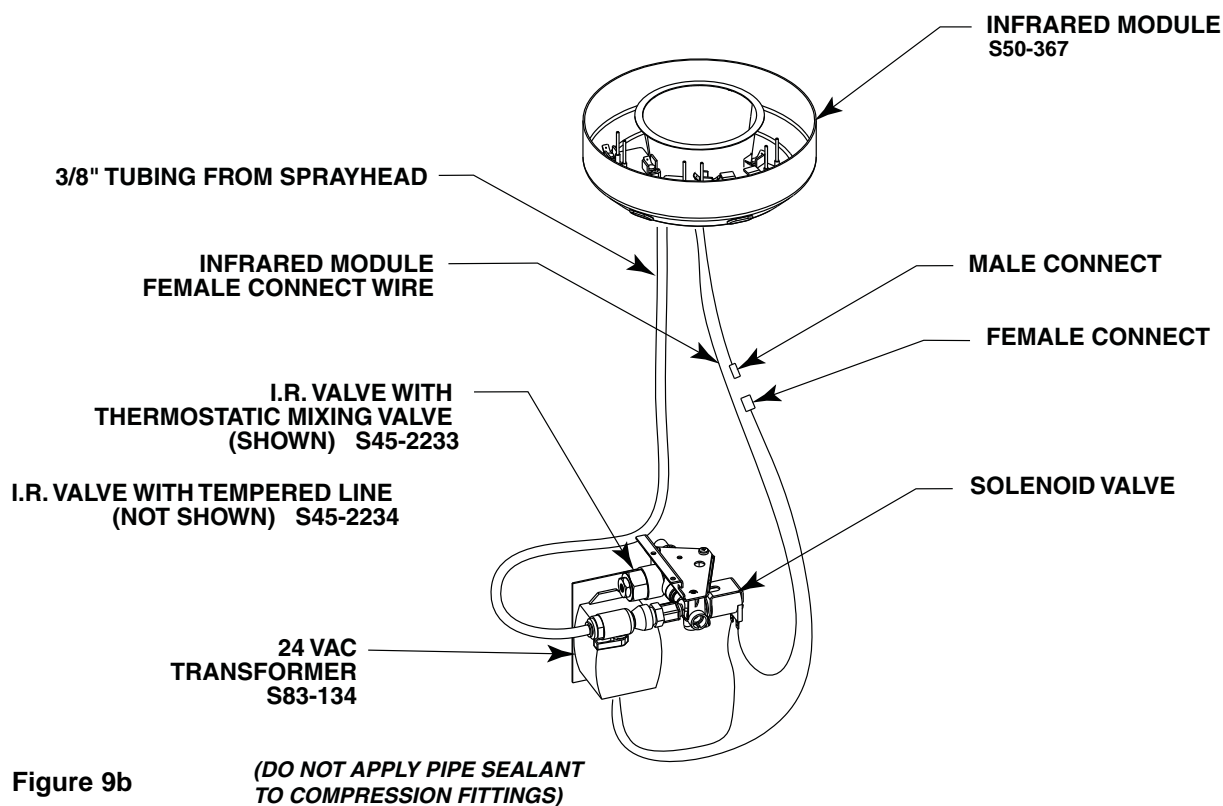

Figure 9b
- A** ATTACH INFRARED FEMALE CONNECT WIRE FROM INFRARED MODULE TO SOLENOID AS SHOWN IN FIGURE 9B ON PAGE 12.